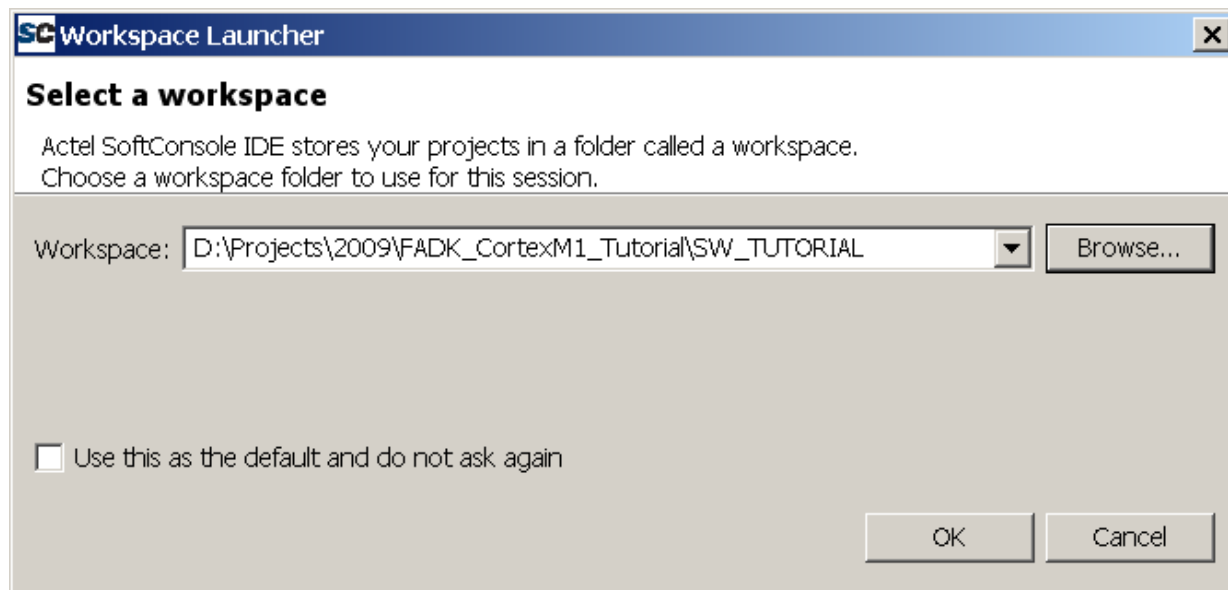

Figure 1-3 • Workspace Launcher
1. Invoke SoftConsole and define the directory called **Workspace** for software project data (Figure 1-3).